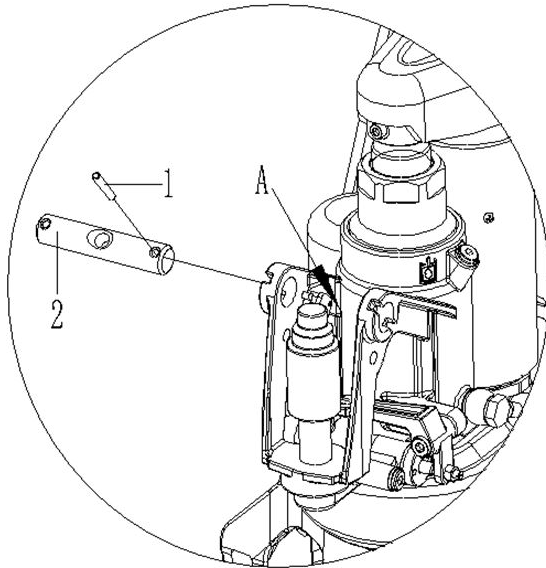

Figure 1
1. Refer to Figure 1: Remove the small pin (part #1) from the large pin (part #2), then pull out large pin.